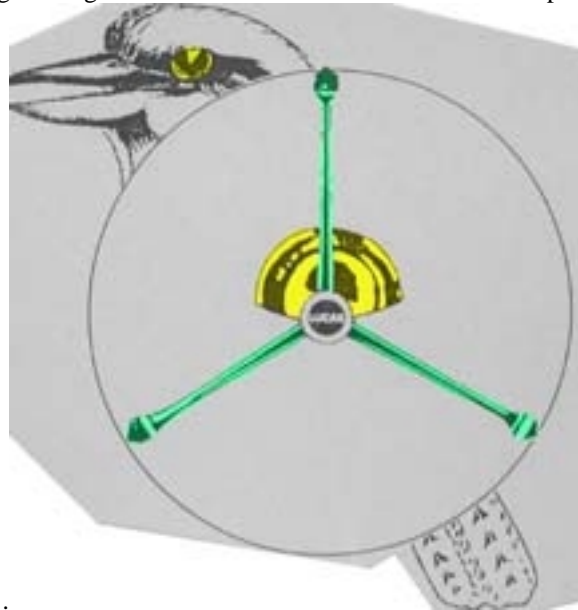

Fig. 7 Tripod Unit
Step 1 Place tripod unit on seating flange such that [1] middle support points to top reference mark, [2] shield is in upper half of body and [3] **Lucas** name is horizontal. See fig 7. *Ignoring the Kookaburra.*